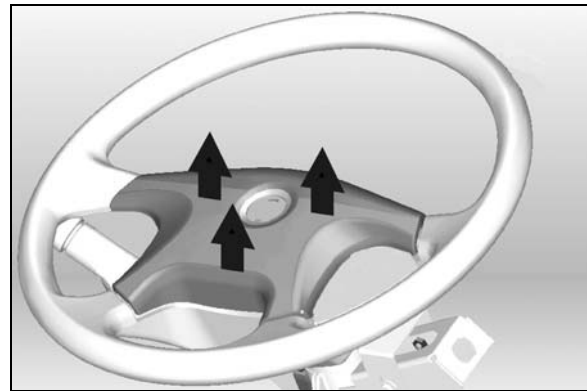

FIGURE 9: REMOVING THE HORN PAD
2. Pull the horn pad straight up gently to detach it from the steering wheel (Figure 9).